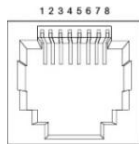

Figure 4
- Insert the top of the DIN-Rail on to the track as shown in Figure 4.